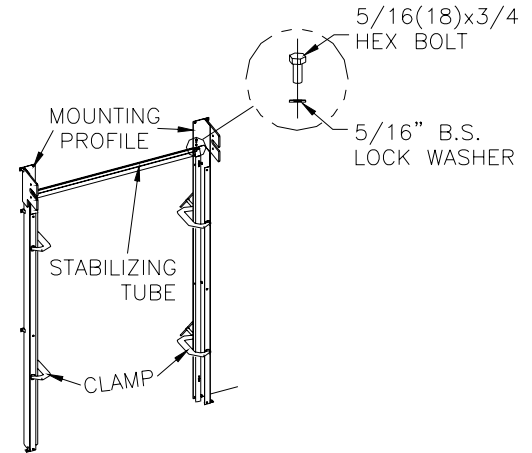

FIG. 5A
- Clamp one Upright flush to edge of a door jamb with mounting holes against wall and anchor plates at the bottom (Figure 5a).